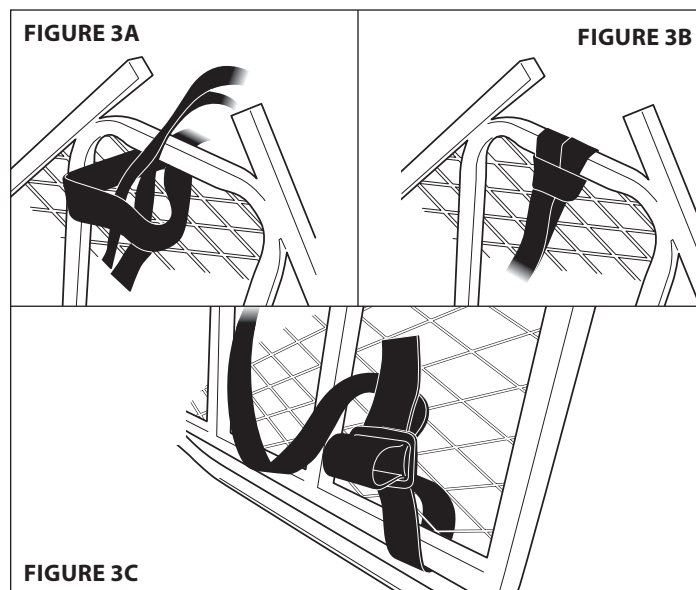

FIGURE 3C
4. If included, attach backpacking straps (48067) at desired location on platform. Fold strap in half. Feed folded strap through platform mesh. Feed the two loose ends of strap through folded loop and pull tight forming a cinch knot. **SEE FIGURES 3A AND 3B.** Feed straps through platform mesh and secure with provided tri-slide buckles. **SEE FIGURES 3C**